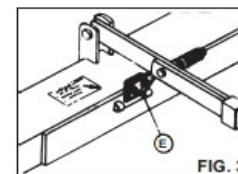

FIG. 3
- 4) PRIMA DI SGANCIARE LA MACCHINA RUOTARE IL FERMO VERSO L'ALTO (FIG. 3).
- 4) ANTES DE DESENGANCHAR LA MÁQUINA, GIRENLO HACIA ARRIBA (FIG. 3).
- 4) BEFORE DISCONNECTING UNIT TURN RELEASE SUPPORT UPWARDS (FIG. 3).
- 4) AVANT DE DECROCHER LA MACHINE, LE TOURNER VERS LE HAUT (FIG. 3).